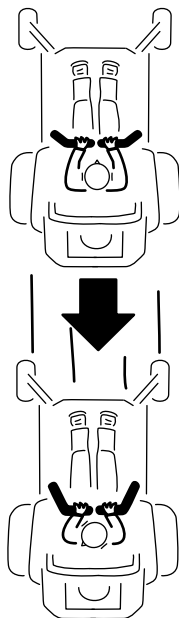

Figure 24
2. To go in reverse, slowly pull the motion-control levers rearward (Figure 24).